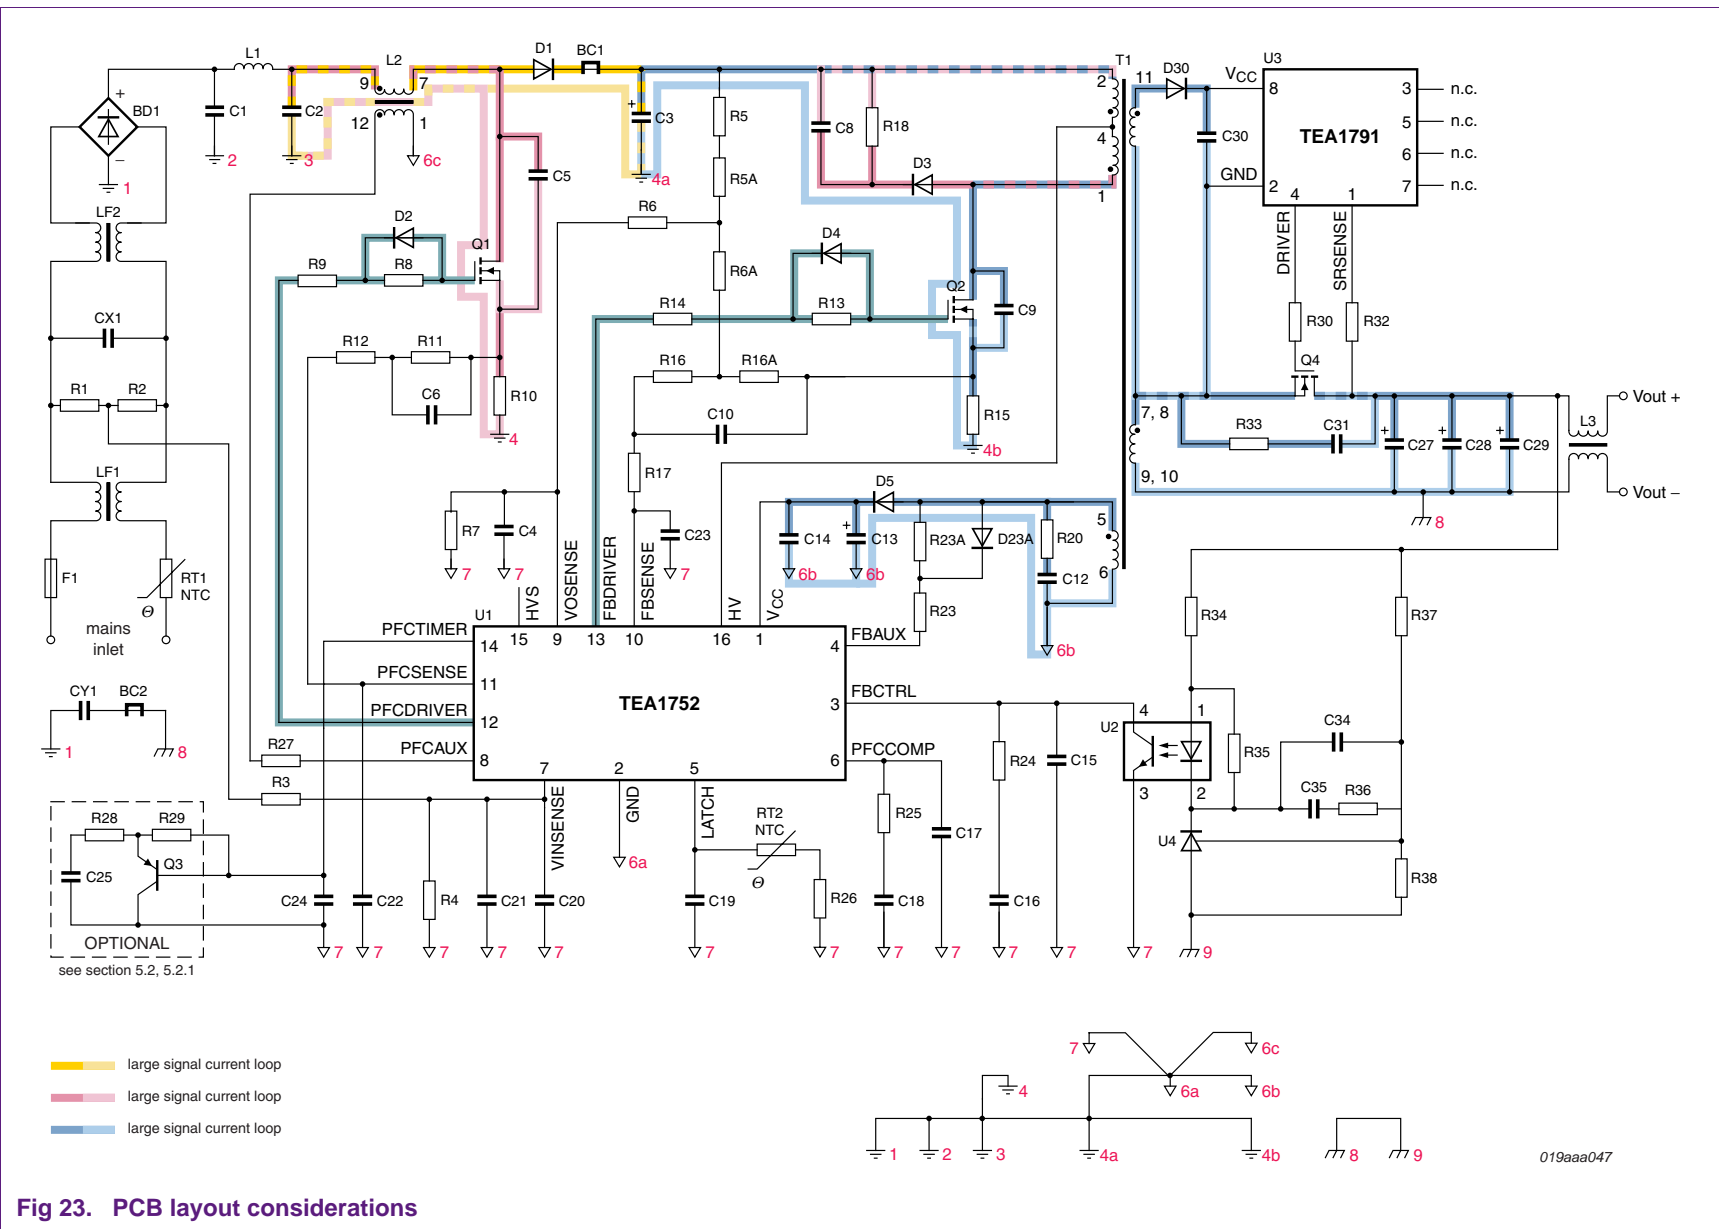

Fig 23. PCB layout considerations
- Separate large signal grounds from small signal grounds (see Figure 23). Small signal grounds can be easily recognized by their triangle shaped symbol. All other ground symbols are related to large signal grounds.
- Try to make the print area that fits within the separate large signal loops (see Figure 23) as small as possible. Each separate large signal loop has its own color.
- The connection between both MOSFETs (PFC and flyback) and both driver outputs of the IC should be as short as possible (green line in Figure 23). Try to minimize the coupling between these two signals by increasing the distance between them and/or preferably using a guided ground track for both connections.
- Figure 23 shows an overview of the hierarchy of the different grounds at the bottom.